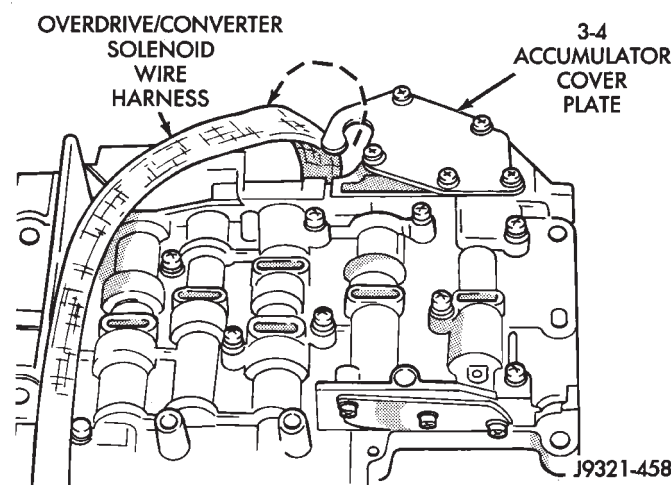

Fig. 67 Unhooking Solenoid Harness From Accumulator Cover Plate
(8) Unhook overdrive/converter solenoid harness from 3-4 accumulator cover plate (Fig. 67).